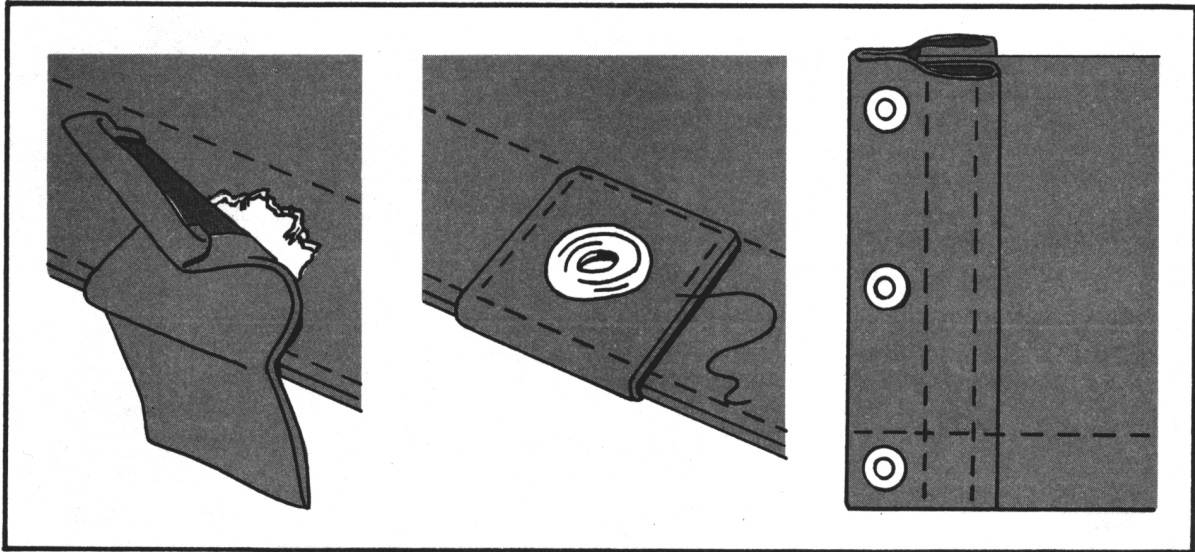

Figure 9-15. Overedge grommet patches
(1). Overedge Grommet Patch. An overedge grommet patch (Figure 9-15) is used to repair the damage when a grommet near an edge has been torn loose. There are two ways to make the repair. If the grommet were located on an eave or bottom edge, use an eave-edge patch to repair the damage. After the canvas has been repaired, insert a grommet. If the grommet were located in an area other than an eave or a bottom edge--